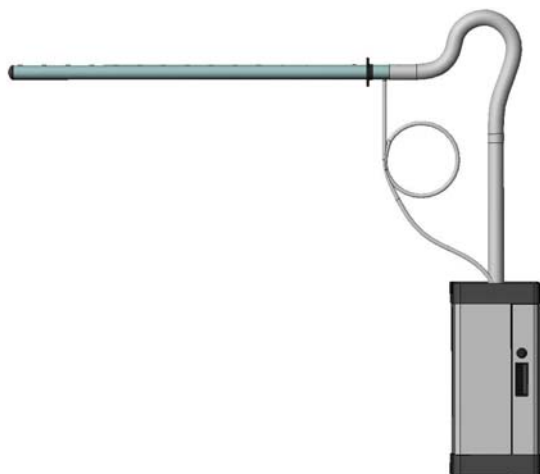
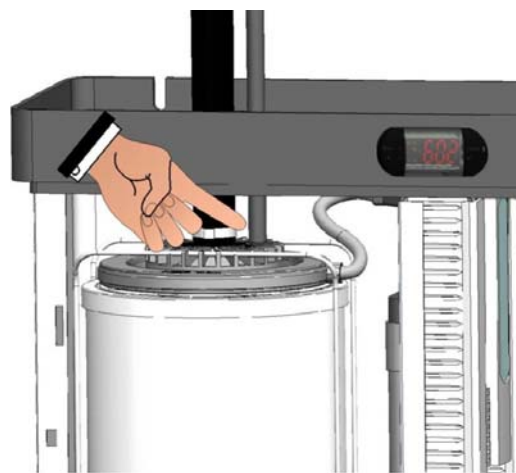

Fig.44
Fig. 45
2. If the distributor is positioned higher than the humidifier and the steam tube generates a siphon (e.g. Fig. 44), the condensate recovery must be installed, directly discharging in appropriate cylinder sleeve of the humidifier (Fig. 45) or in a water collection well. The condensate recovery is made connecting the 10 mm sleeve of the distributor to the PEGO UNITUBODN10 tube for this type of application. In the path of the condensate recovery tube from distributor to humidifier or from distributor to well, a siphon must be made with full turn of 200 mm minimum diameter; the siphon must be charged with water prior to installation. This will prevent steam exiting the condensate recovery tube (Fig. 44).